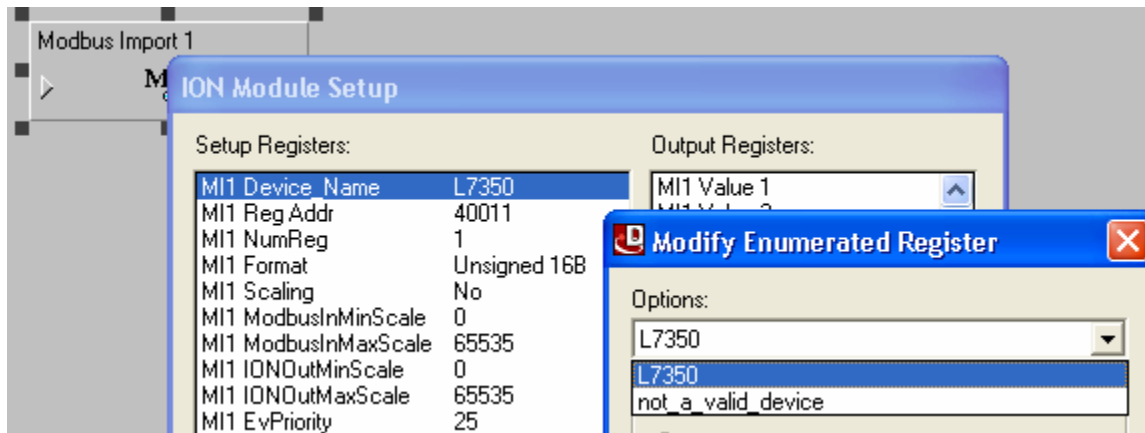
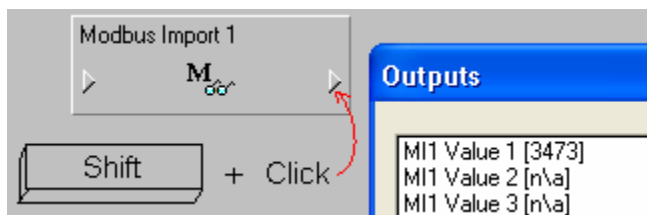

Figure 8.0: Designer - Linking the modbus import module to one of the downstream modbus slaves called L7350.
Figure 9.0: Designer - Viewing real-time values
13. Double click on Device name as seen by Fig 8.0. Choose the 7350.
14. To see if the import module works, define the other setup registers as in Figure 8.0. Then, close out of the properties window, hold down shift and click on the outputs to see real-time values in Designer as in Fig 9.0.